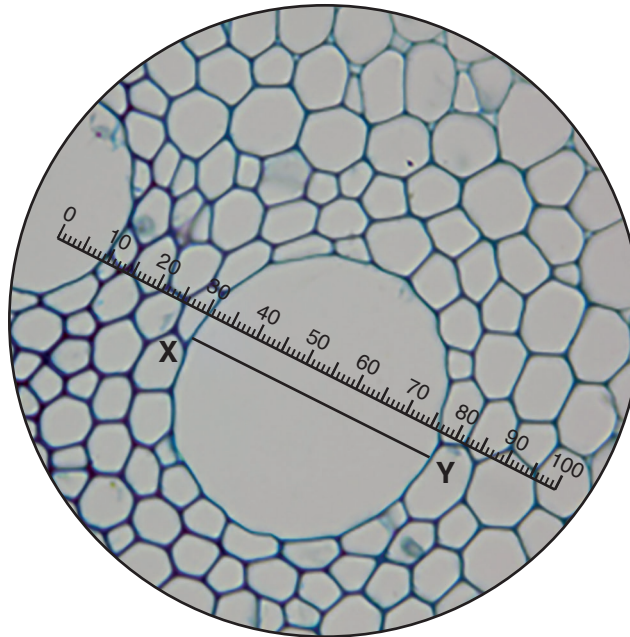

Fig. 2.3
- (c) Fig. 2.3 shows a photomicrograph of a transverse section through a different stem taken using a light microscope fitted with an eyepiece graticule.
- (ii) Use the calibration of the eyepiece graticule division and Fig. 2.3 to calculate the actual length of the line **X–Y**.